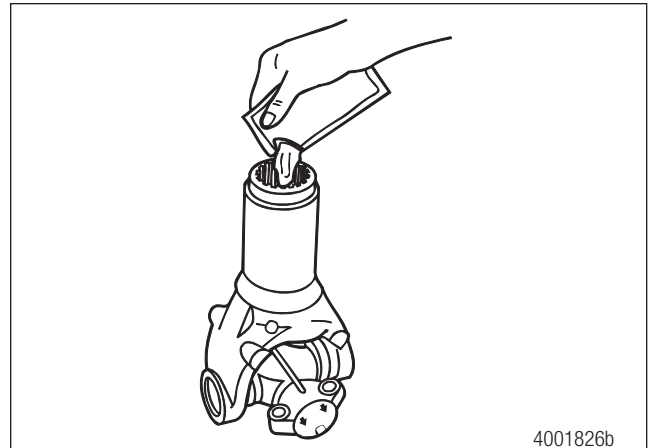

Figure 5.41
1. Use the grease packet supplied with the slip yoke to apply the entire amount of grease into the slip yoke. Figure 5.41.